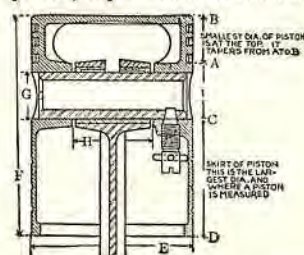

Fig. 6. This illustration shows how a piston tapers and also gives the measurements to be given when ordering.
Theoretically, the piston should be ground tapered from the bottom to the top, but commercially the piston is ground straight on the part from point (D) to point (A) (Fig. 6).
In the absence of suitable micrometers, and if the pistons are to be ordered, cut a 1/8" bar of steel, filing both ends smooth so as to fit the cylinder at its smallest point, and number each bar for each cylinder. Send these bars to the piston manufacturer, and give make of engine, etc. (See also under Fig. 6.)
The pistons should next be checked for roundness as they occasionally become out of round due to rough handling in shipping. The pistons are checked with 3" to 4" micrometers (shown in Fig. 11A), the measurements being taken at different points around the skirt of the piston (see Fig. 6).